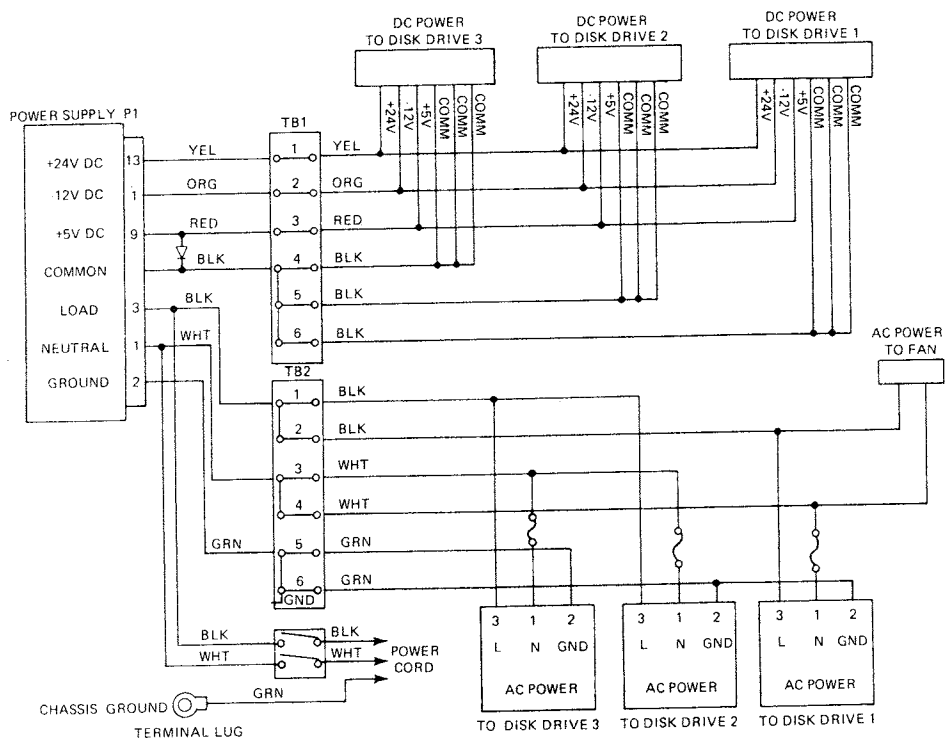

Figure 1. Disk Expansion Unit Wiring Diagram
- f) If LED does not light, it indicates either a bad LED or a +5 volt circuit failure. First, check all DC voltages (+5V  $\pm 2\%$ ; -12V  $\pm 5\%$ ; +12V  $\pm 10\%$ ) at the power supply output terminals (see Figure 1). If the correct voltages are not present then disconnect the wiring harness from the output terminals, install a 4 ohm, 5 watt resistor between +5 and COM and check voltages again.